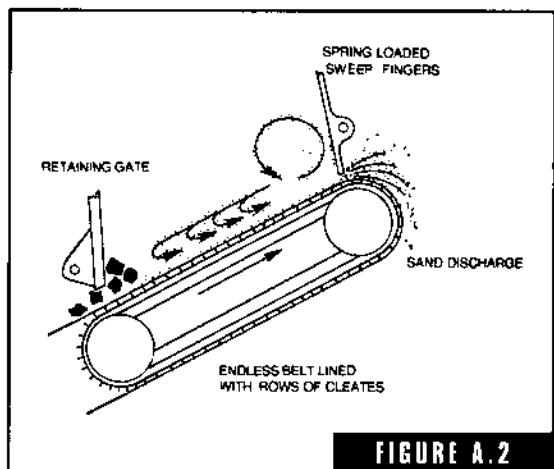

FIGURE A.2
**aerators** Any device which fluffs up and introduces air into a molding sand to increase the flowability and ram mability of the sand (Fig. A-2). It also helps to evenly cool and distribute the moisture. Simple riddling of the sand accomplishes this evenness to some extent. Some machines condition and aerate the sand in the same action. A device widely used in the foundry is the Royer Sand & Blender machine. This machine separates, aerates, and blends all in one action. Royer also produces many types of aerators and conditioners.